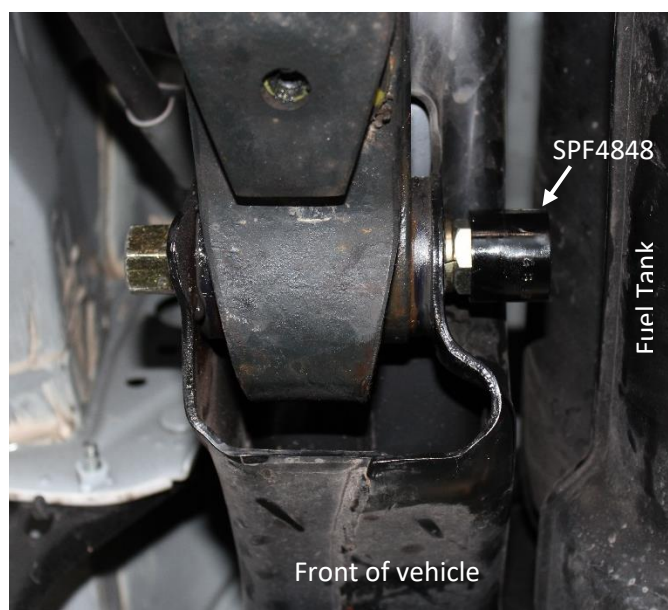

Figure 8: SPF4848 installed on fixed pin
- Note:** If the fixed pin is installed from outside to inside on the LHS of the vehicle (side with the fuel tank), push the black bush (SPF4848) onto the end of the fixed pin as shown in figure 7 and figure 8 below. This gives protection for the fuel tank in the event of a side impact collision.